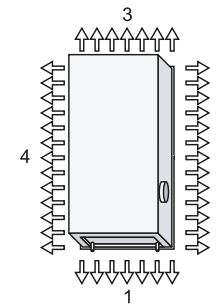

Figure 14. Top view nozzle setting, double-module unit, sides 1-4.
**All four sides of the unit can be adjusted individually. The description of the nozzle setting follows the order shown in figure 14. See example shown in figure 15a.
***All four sides of the unit can be adjusted individually. The description of the nozzle setting follows the order shown in figure 14. See example shown in figure 15b.